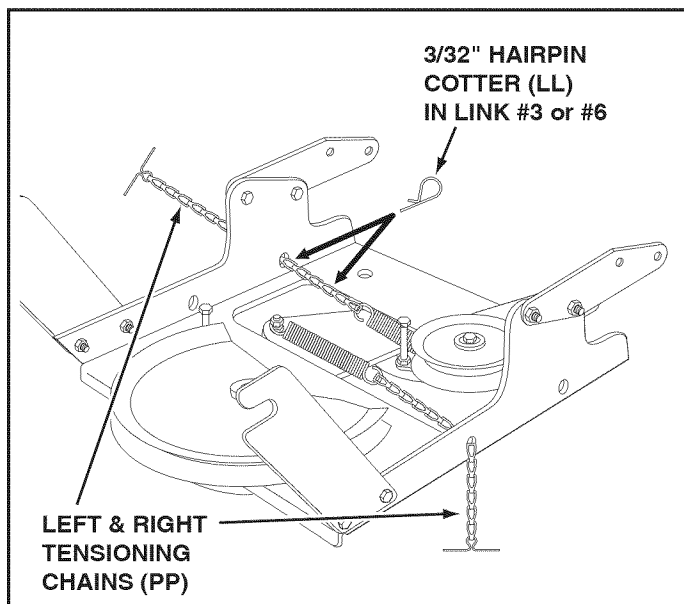

FIGURE 17
STEP 17: (SEE FIGURE 17)
- Install a 3/32" hairpin cotter (LL) into the left side chain. If the tractor's engine pulley is smaller than 6", place it in link #3 from the spring. For larger engine pulleys, place it in link #6 from the spring.